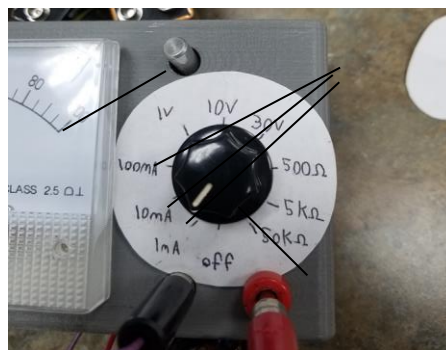

Figure 5-3
1. Turn the rotary switch clockwise until it reaches one of three ranges of current (Figure 5-3). These ranges indicate the maximum amount of current that the meter can handle. When at max, the dial from the meter will be at the end point.